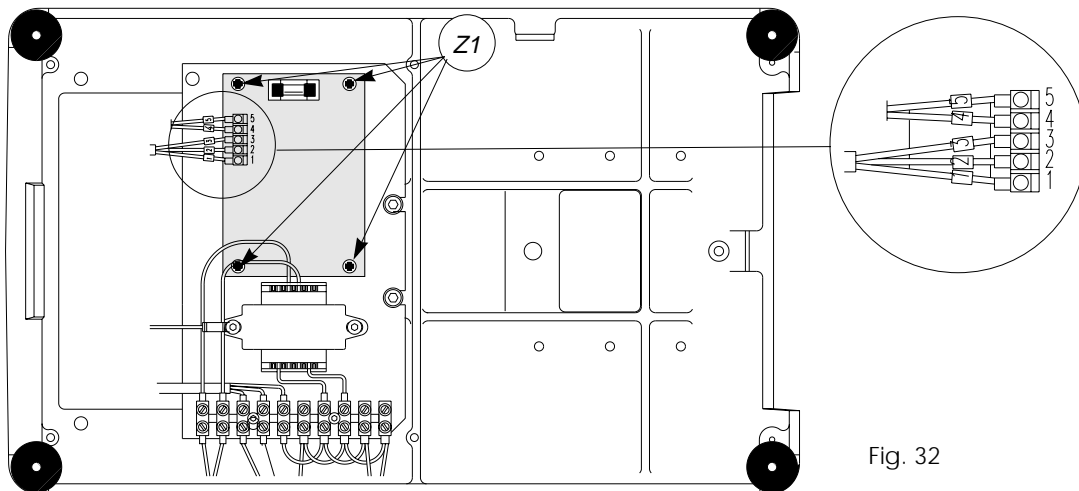

Fig. 32
4. remove the wires (1-2-3-4-5) and unscrew the four screws (Z1) securing the board (Fig.32).